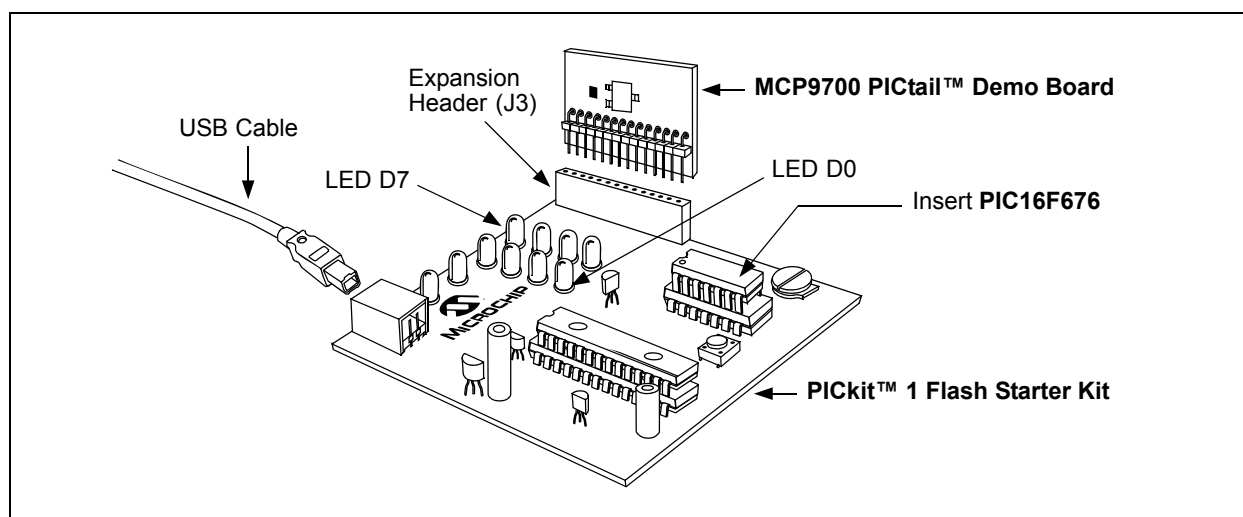
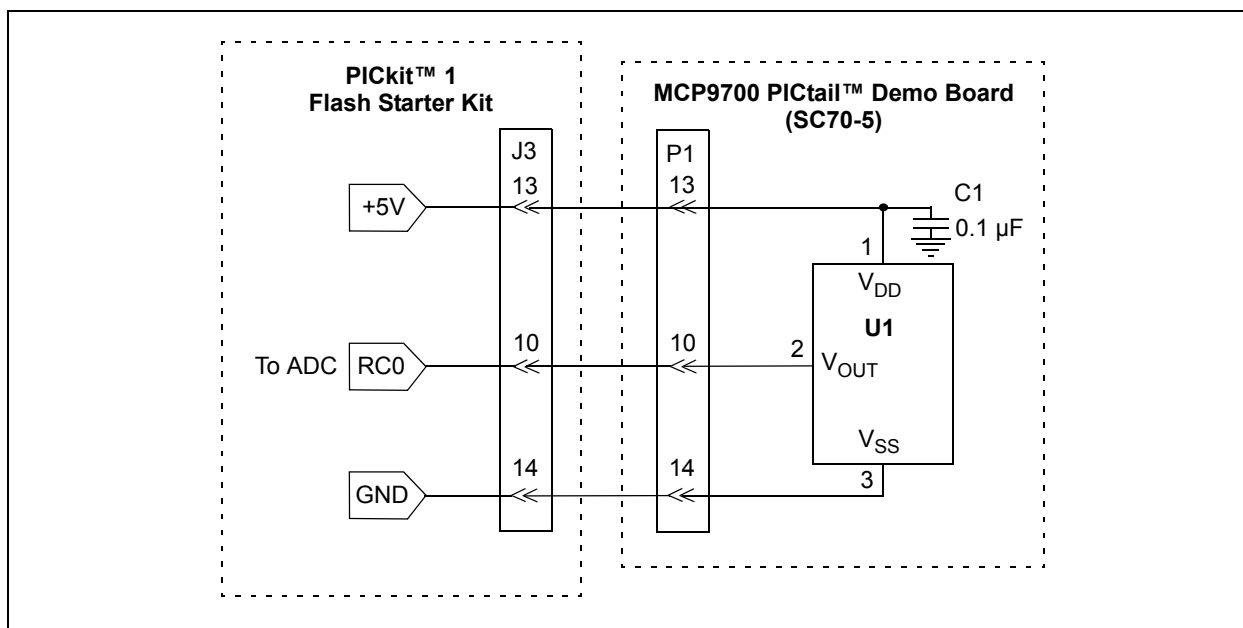

FIGURE 2-2: MCP9700 PICtail™ Demo Board and PICKit™ 1 Flash Starter Kit.
FIGURE 2-3: Simplified MCP9700 PICtail™ Demo Board Schematic.
1. Connect the P1 header of the MCP9700 Temperature-to-Voltage Converter PICtail™ Demo Board to the J3 connector on the PICKit 1 Flash Starter Kit board. Refer to Figure 2-2 for proper orientation of the MCP9700 Temperature-to-Voltage Converter PICtail™ Demo Board and Figure 2-3 for the simplified board schematic.